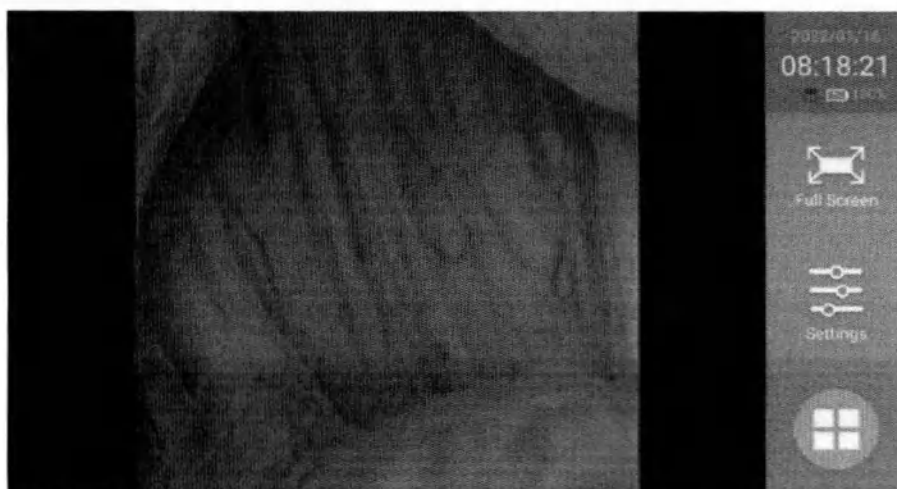

Fig4.2 Real time image (VS50)
2. After starting up, the LOGO shows 10 seconds, and the default is in the preview mode, means real-time endoscope image. (See Fig 4.2)